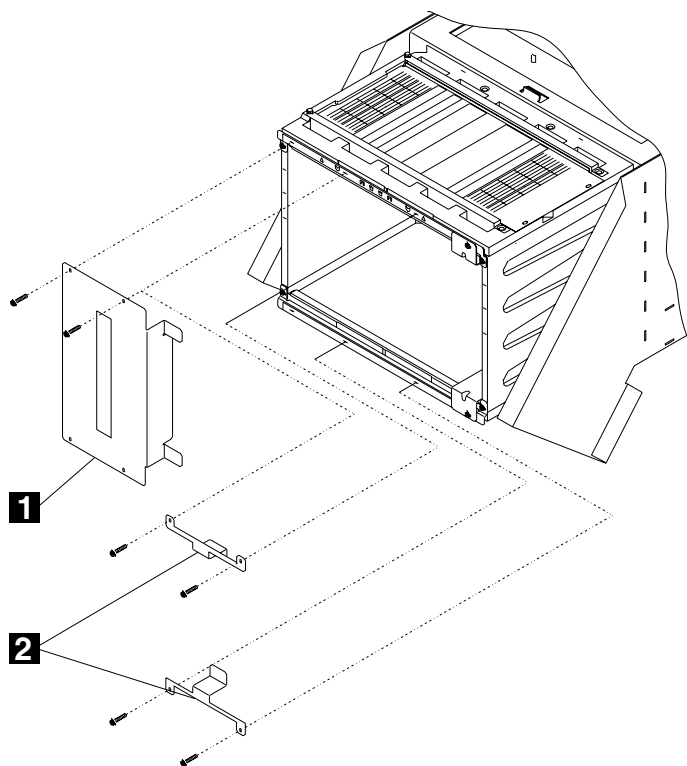

Figure 4-157. SAC Gate Assembly - Brackets
6. Refer to Figure 4-157. Working from the rear of frame 01, do the following:
6. Refer to Figure 4-157 on page 4-170. From the rear side, do the following :